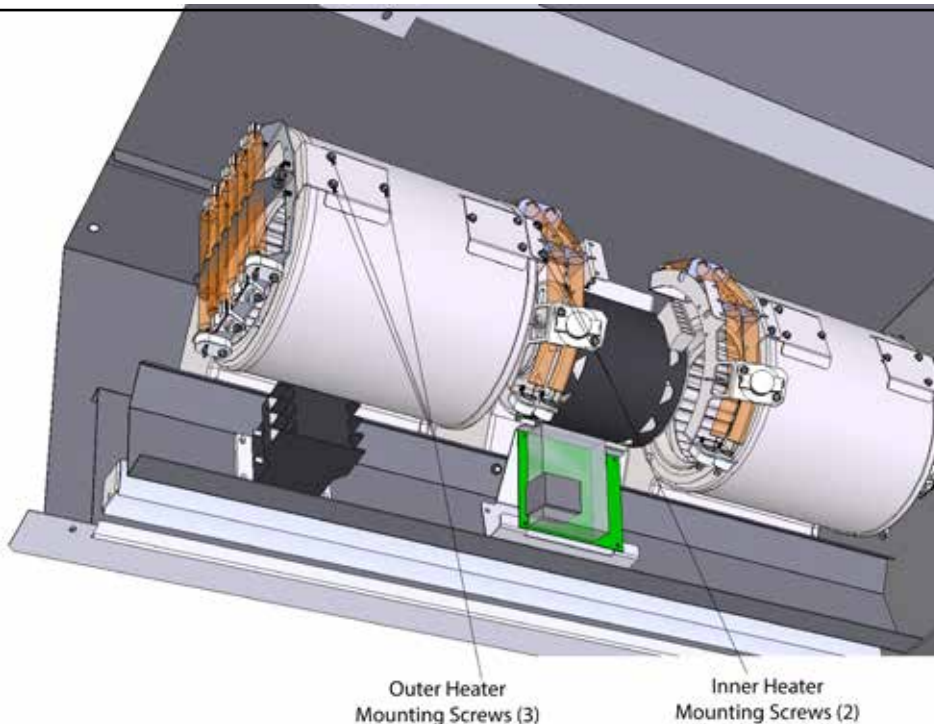

Figure 11
5. To remove the outer heaters, remove the (3) self drilling screws from the mounting plate that is attached to the fan. **See Figure 11.**
6. To remove the inner heaters, remove the (2) self tapping screws from the mounting plate. **See Figure 11.**